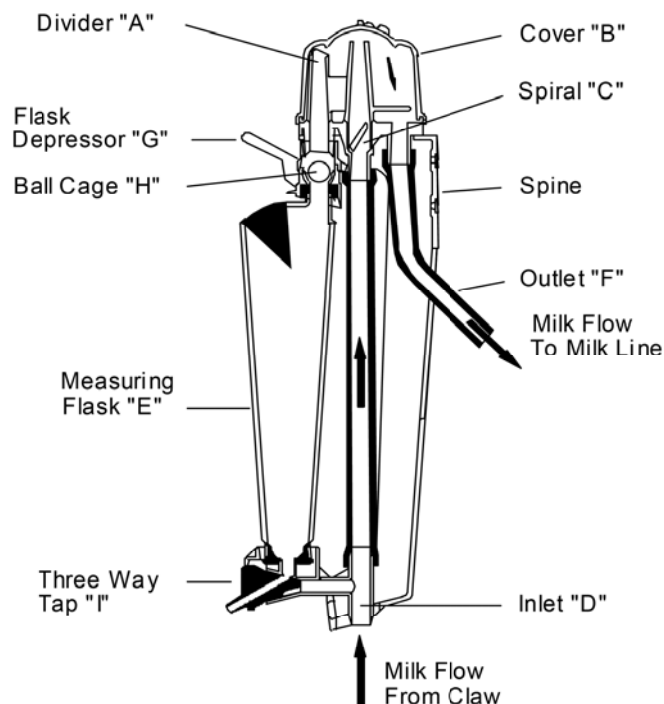

Fig 3.1 Cutaway view of the Waikato MkV Milk Meter
3.1. THE MILK METER (refer to Fig 3.1)
With the flask removed from the meter or when the flask depressor (G Fig 3.1) is operated the stainless steel ball in the ball cage assembly (H Fig 3.1) prevents excessive air admission to the milking system.
A milk sample for fat analysis can be collected direct from the Milk Meter when an open bottom flask is fitted, by operating the 3 way tap (I Fig 3.1) (See Section 5 for procedure).